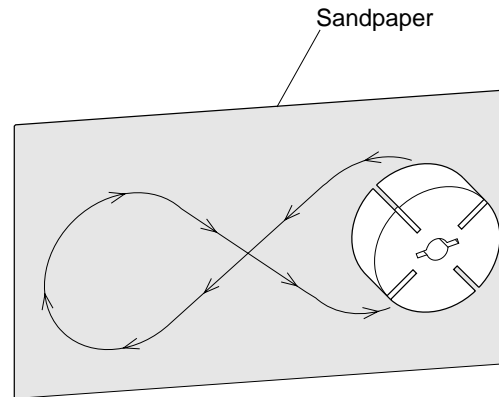

Figure 30 - Sanding Rotor
14. Place fine grade sandpaper (600 grit) on flat surface. Sand rotor lightly in "Figure 8" motion four times (see Figure 30).